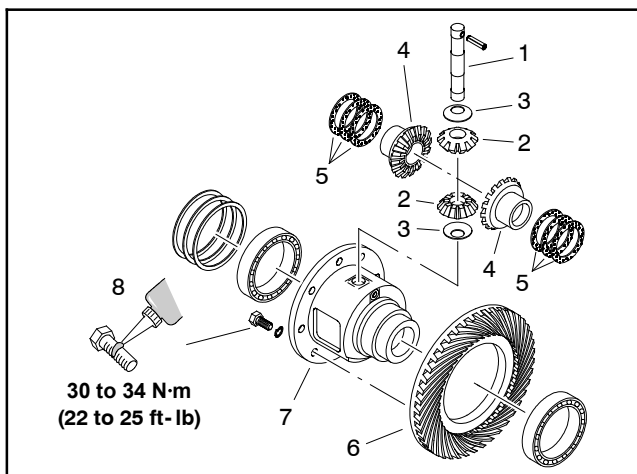

Figure 39
7. Remove the differential pinion shaft, pinion gears and pinion washers. Remove the differential side gears and side gear shims. Remove the ring gear only if it will be replaced (Fig. 39).